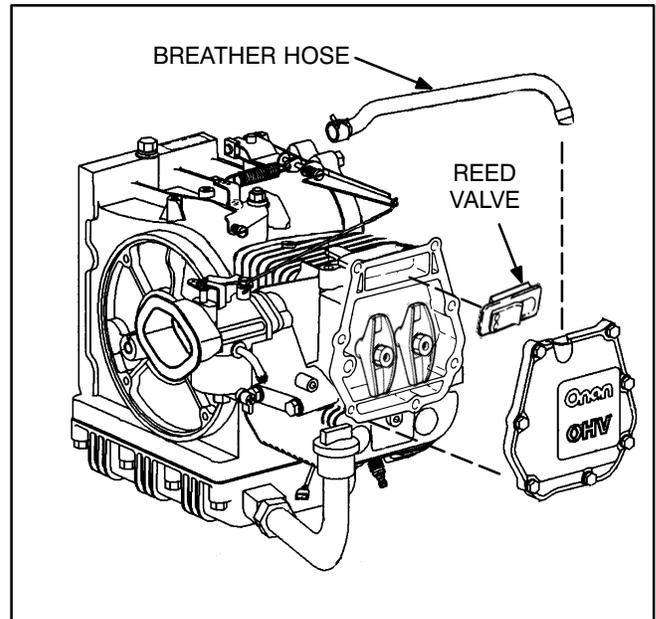

FIGURE 8-5. CRANKCASE BREATHER SYSTEM
1. Remove the breather tube from the valve cover (Figure 8-5).